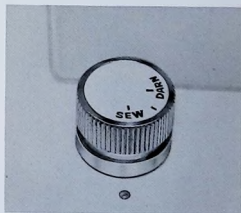
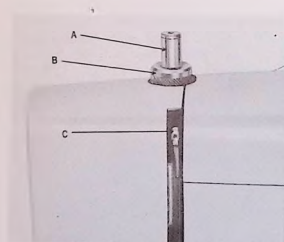

Fig. 11. To Drop the Feed
Fig. 12. Regulating Pressure on Material
For all normal straight sewing, the drop feed knob, Fig. 11, must be turned to "Sew" position. When this knob is turned to "Darn" position, the feed will be lowered from the needle plate and will not feed the material. Do this for the purpose of embroidering. To commence normal sewing again, turn knob to "Sew" position.
See Fig. 12
- NOTE: 1. Have take-up lever, (C) Fig. 12, at highest point before starting the sewing operation.
After threading the machine, place material and threads in position under the presser foot and lower the presser foot. With your right hand, turn the top of the hand wheel, (D) Page 2, toward you until the take-up lever (C) Fig. 12 is at its highest point. You are now ready to begin sewing. By having the take-up lever at its highest point, it is never necessary to touch the hand wheel to start the machine. You merely press the foot control (portable models) or knee control (cabinet models). The speed of the machine is regulated by increasing or decreasing the amount of pressure exerted on the control.
1. Attach darning foot with arm (A) at the back of needle clamp (B).
2. Release completely the snap lock darning, Fig. 12. Turn drop feed knob, Fig. 11, to "DARN" position. Machine is now ready for darning.
2. Release pressure on the snap lock darning, Fig. 12, by pushing down on release (B).
3. Turn drop feed knob, Fig. 11, to "Darn" position.
- B. Push down on snap lock darning (A) Fig. 12.